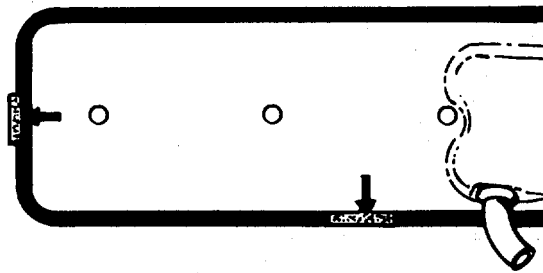

FIGURE 3-46. Rubber Tappet Gasket.
- ° If a rubber tappet cover gasket is used, it must be installed on the cover as shown in the illustration. (FIGURE 3-46)